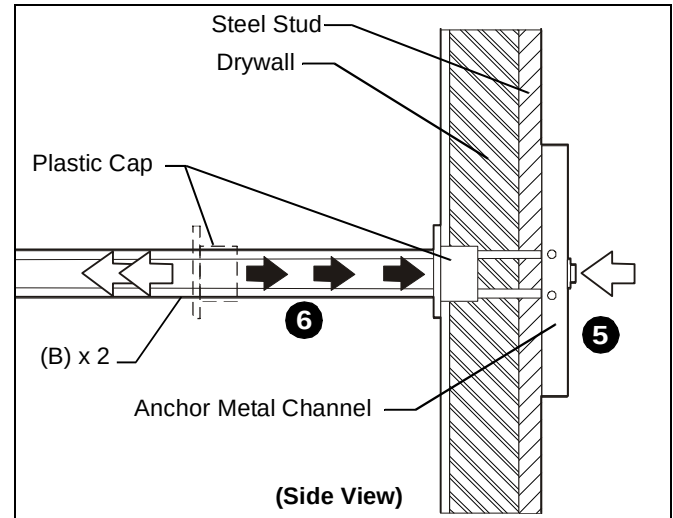

Figure 11
5. Holding plastic straps on anchor (B), pull anchor away from wall until channel rests flush behind wall making sure anchor channel is positioned vertically on stud. (See Figure 11)
6. Slide plastic cap on anchor (B) towards wall until flange of cap is flush with wall. (See Figure 11)